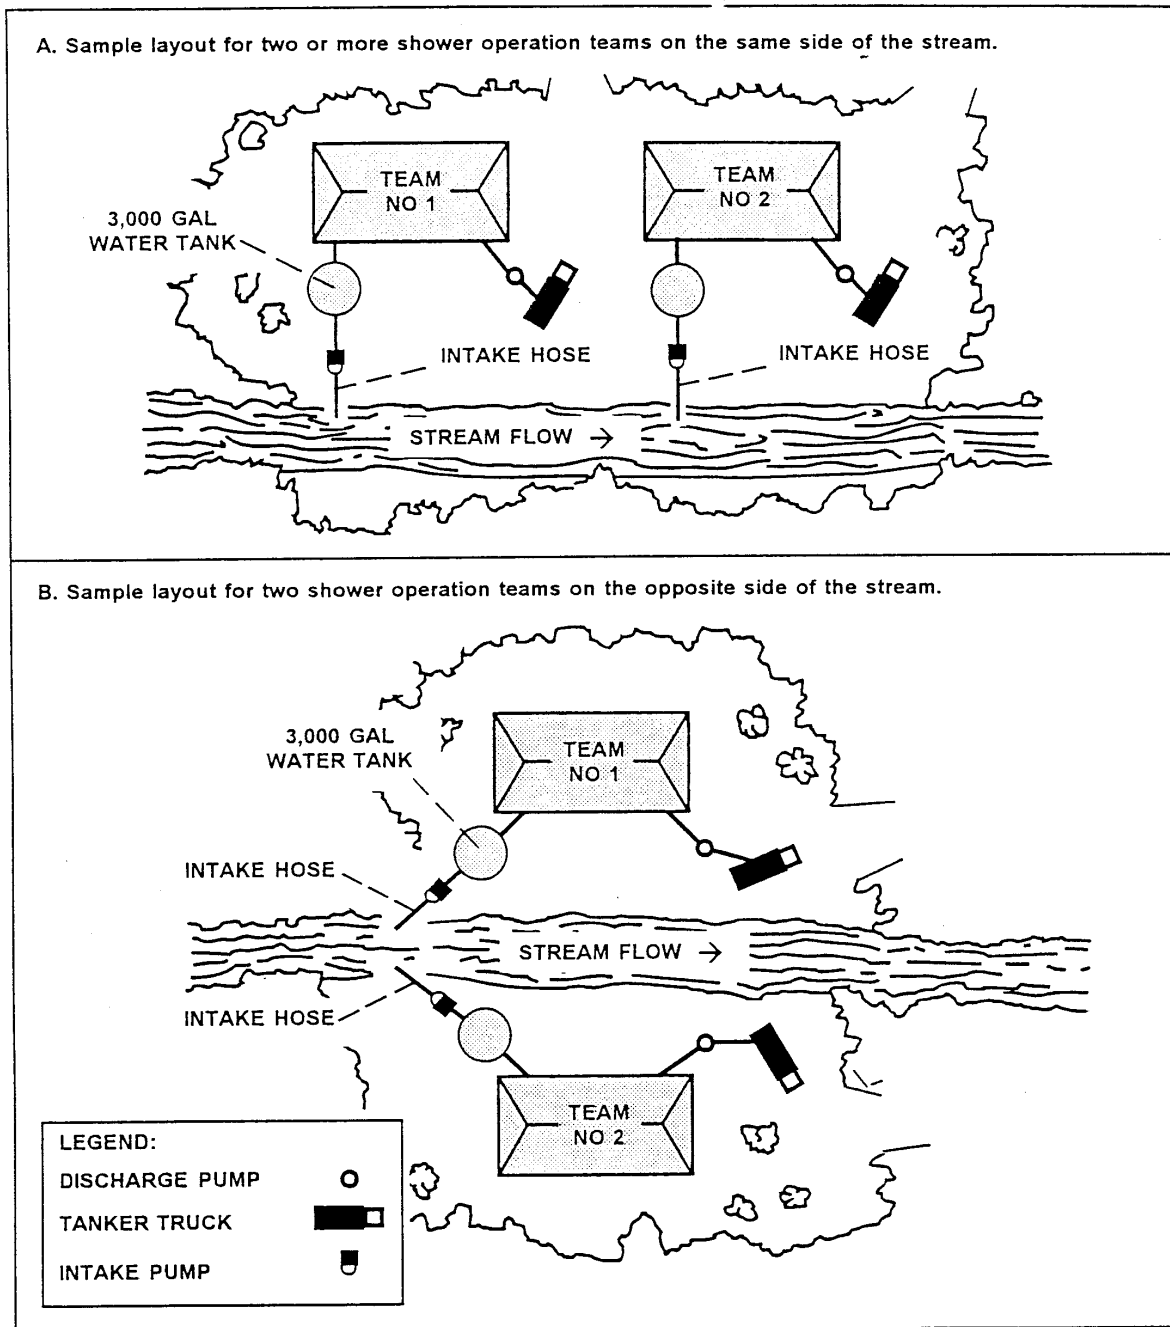

Figure 3-6. Shower layouts
- *Layout planning.* Sometimes, it is necessary to set up two or more S/L “subsections/teams” in the same place to provide the required support for a command or organization. These elements can operate as a separate “entity” section or as a combined S/L “entity” section (under TOE 42414L0). Suggested layouts for a single S/L section and for two or more S/L sections are shown in Figures 3-6 and 3-7 (pages 3-18 and 3-19). This requirement may be required for the S/L element of the SLCR section/team, depending on higher headquarters directive and influence of METT-TC.
(NOTE: Figure 3-6 depicts shower operations under TOE 42414L0.)
S/L Points. When two or more S/L points operate in the same area, the section/team chief or the section/team NCO(s) must be sure the intake hoses are located at about the same point. See Figure 3-6 for shower layout diagrams. If the two “teams” are on opposite sides of the same stream, the intake hoses and